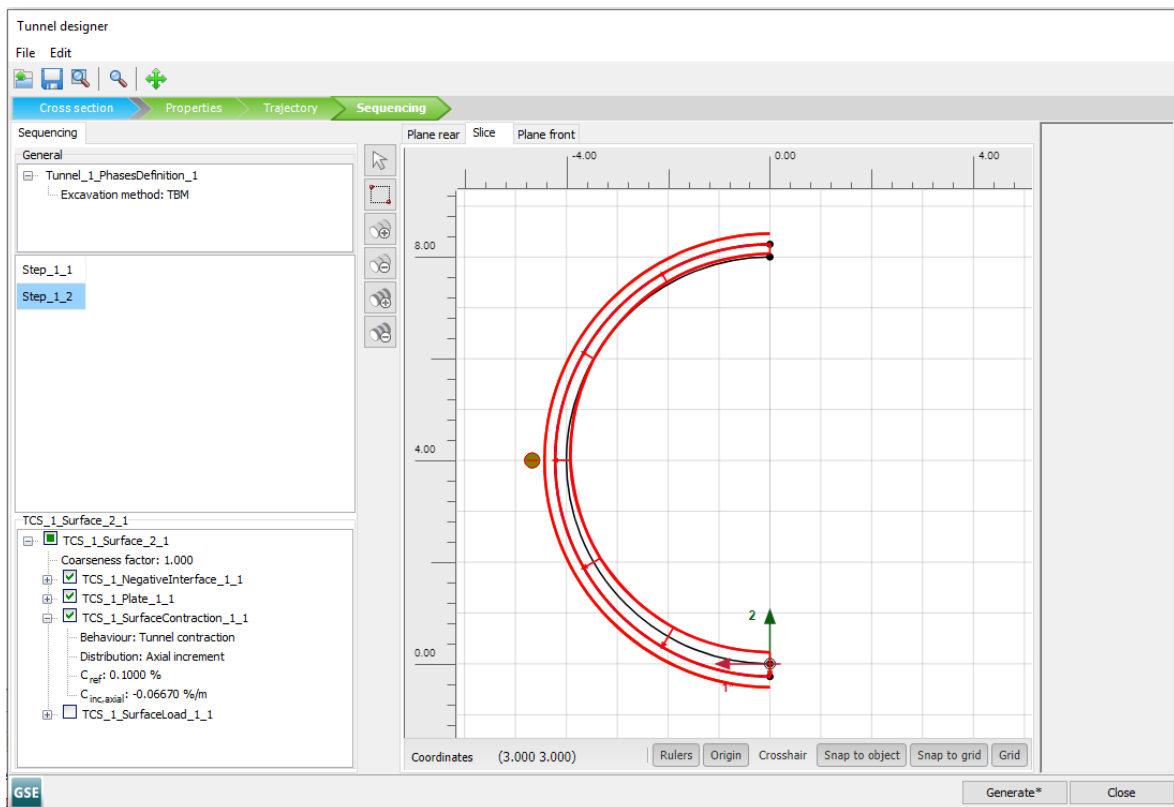

Figure 70: Slice tabsheet in the *Tunnel designer* for Step_1_2
- Go to the **Slice** tab, select the outer surface and set $C_{ref} = 0.1\%$, see Figure 70 (on page 97).